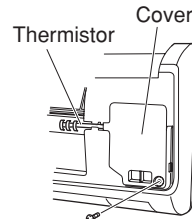

Fig. 17a-1
- (4) Close the cover and replace the screw. (Fig. 17a-1)